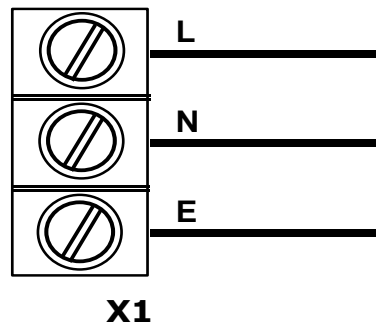

Figure 3. Connecting External AC Power via Connector X1.
| Figure 3. | Connecting External AC Power via Connector X1..... | 5 |
If the ME5-F is an AC power version (ME5-F-A-), then the ME5-F has a 240 vac transformer fitted internally, and a power cord is supplied. The external mains power cables (Active, Neutral and Earth) are connected through the second cable entry to the PCB connector X1, as shown in Figure 3 below.
- an external AC supply (to Connector X1, shown in Figure 3 on page 5).